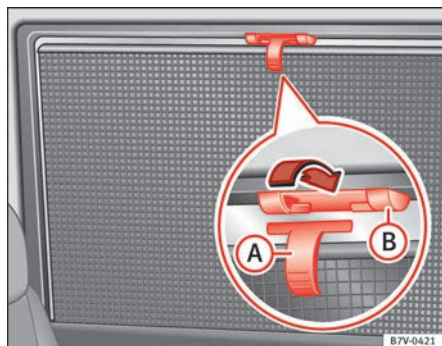

Fig. 65 On the rear right-hand window: sun blind.
- Pull the sun blind by the handle ⇒ fig. 65 ① up to the top.
- Hook both rings of the fastening rod in the spaces provided ②. Check that the sun blind is securely hooked into the spaces provided when it has been lowered ③.
- To put the sun blind away, unhook it at the top and lower by hand ⇒ ④.